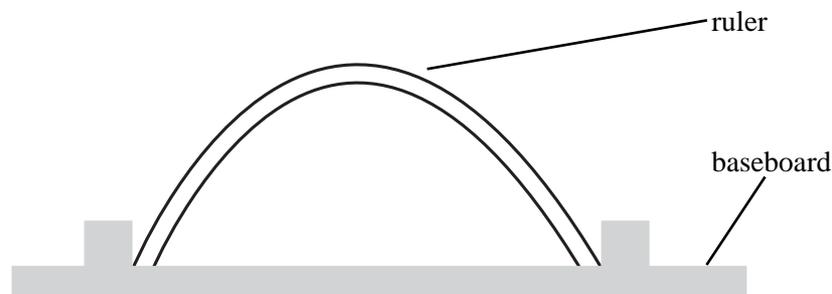

Figure 3
- Using the baseboard provided, bend the ruler into arcs, as shown in **Figure 3**. Record the **two** different values for the resistance of the gauge.
- (ii) Calculate a mean value for the fractional change in the resistance, $\frac{\Delta R}{R}$, of the wire when the ruler is bent as shown in **Figure 3**. *(1 mark)*